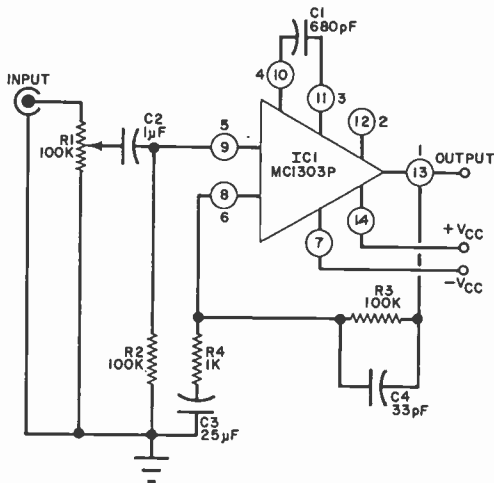

Fig. 1. The general-purpose broadband preamplifier is useful for microphone and tuner inputs. Only half of stereo system is shown in all diagrams.
A built-in power supply (see Fig. 1)
Fig. 1. The transistorized crystal oscillator and buffer are fed from a regulated power supply. They drive the compactron which delivers the 10 watts to the antenna through a matching network.
- Misc.—RC-1 phono jacks (4), 14-contact, in-line IC socket (Augat 314-A61D or similar), metal chassis, perf board, set of concentric knobs, wire, etc.
**Circuits.** For a broadband, general-purpose preamplifier, use the circuit shown in Fig. 1. Only half of the circuit is shown with the terminal connections to the IC shown in the circles. For the second channel, duplicate the circuit, but use the IC pin numbers that are outside the circles in Fig. 1. Note that pins 2 and 12 are not used and that the volume controls for the halves are concentric.
To prevent possible damage to the IC, you may find it advantageous to use a 14-contact, in-line IC socket (see Parts List for Fig. 1). You can then complete the wiring of the circuit and examine it for possible errors without subjecting the IC to the possibility of heat damage or accidental voltage reversal. Note that the IC has a standard orientation mark on one end. Looking down at the top of the IC, the pins are numbered from 1 to 14
- Misc.—See Fig. 1.